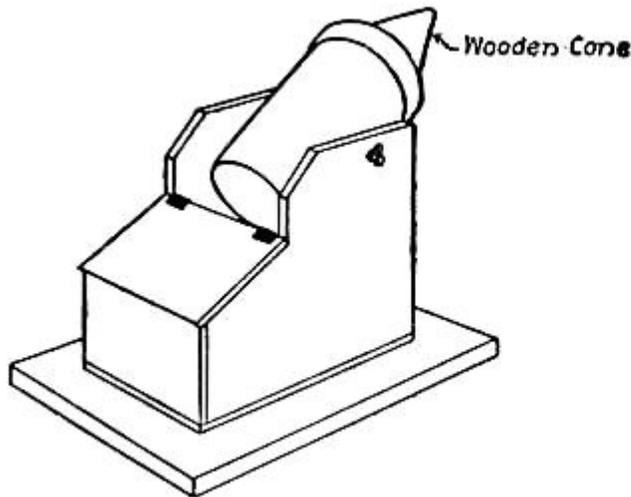

FIG. 292.
**A Toy Mortar** may be made similarly, with the exception of the carriage or mortar-bed. Figures 292 and 293 show the details for this, which is different from a regular mortar, one end being enclosed for an ammunition box. Make a cover for the ammunition box to prevent sparks from igniting the packages of crackers, using pieces of leather for hinges. As shown in the section drawing (Fig. 293), the mortar-bed is mounted upon a small board, being held in place by